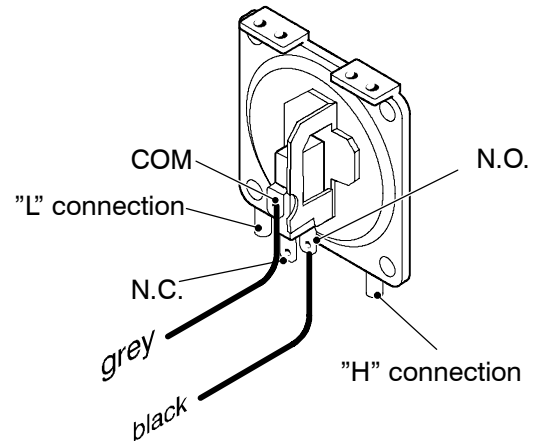

Fig. 2
- 2 Disconnect the wires and check the electrical resistance between the connections of the Air pressure switch. Refer to the Fig. 2